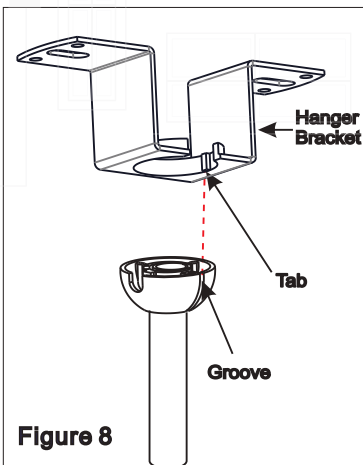

Figure 8
8. Carefully lift the fan, and set the downrod / hanger ball assembly on the hanger bracket attached to the ceiling joist. Be sure the groove in the ball is properly aligned with the tab on the hanger bracket. (Figure 8)